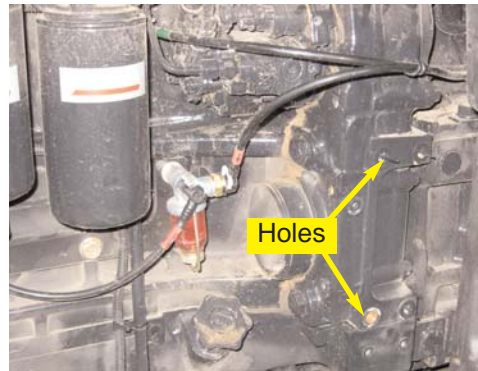

Figure 2a. Mounting location.
- a. Locate the two holes in the engine casting on the left side of the tractor in front of the fuel tank. (Figure 2a.)